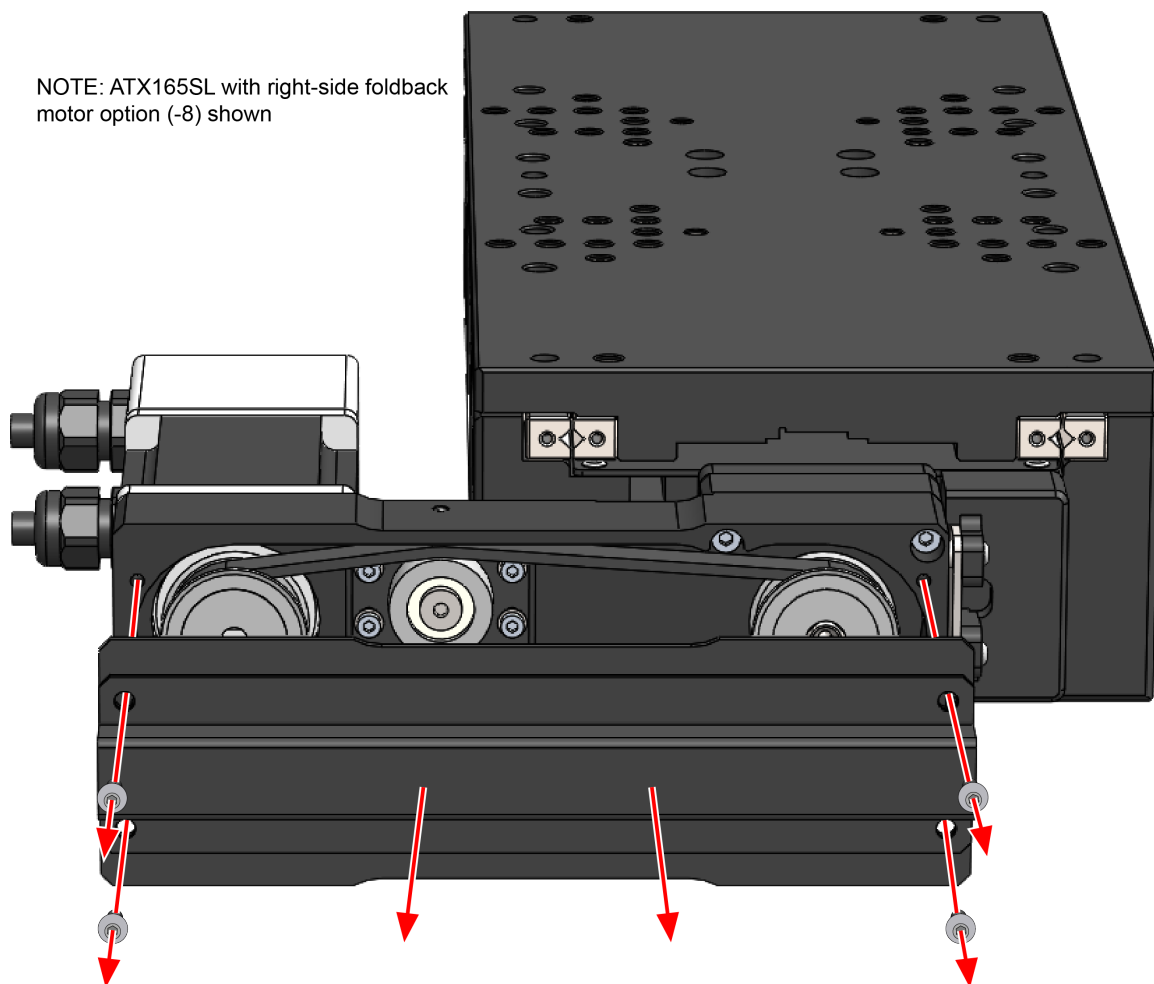

Figure 4-3: Foldback Motor Cover Removal
2. Remove the four mounting screws for the foldback cover and remove the foldback cover. Keep the cable guide and cable cover together (Figure 4-3).